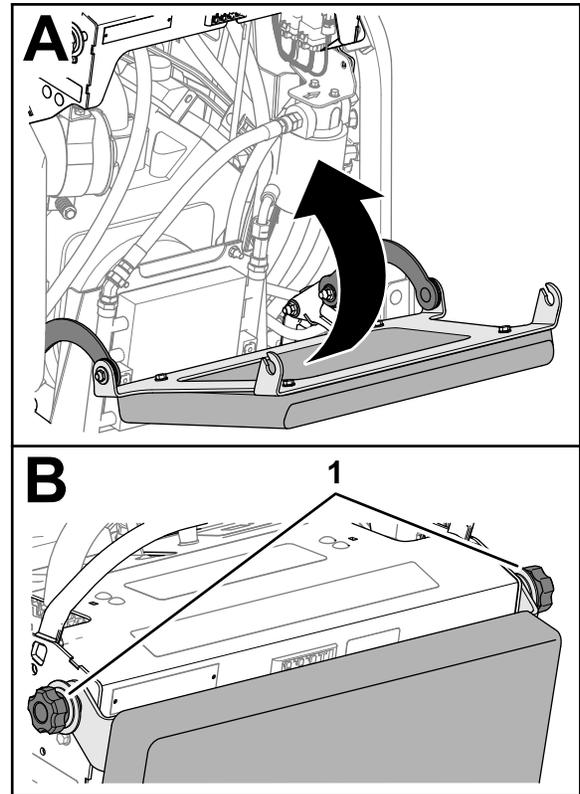

Figure 68
1. Rotate up the operator's cushion (Figure 68).
2. Tighten the 2 knobs (Figure 68).